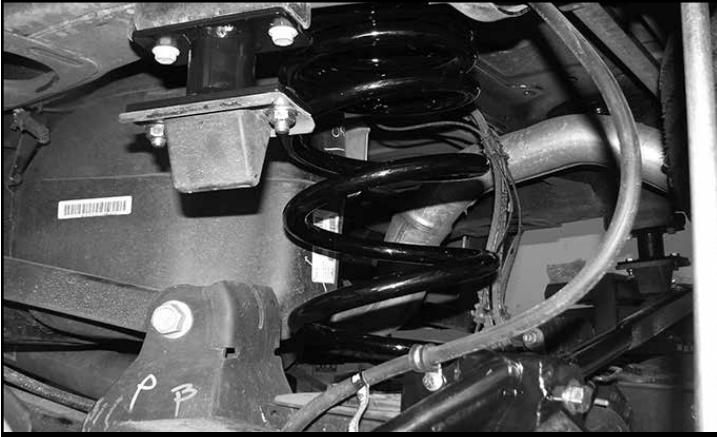

FIGURE 76 - STEP 65
65. Locate and Install (FT44279BK) Fabtech rear spring using the factory rubber isolators as shown. **SEE FIGURE 76**